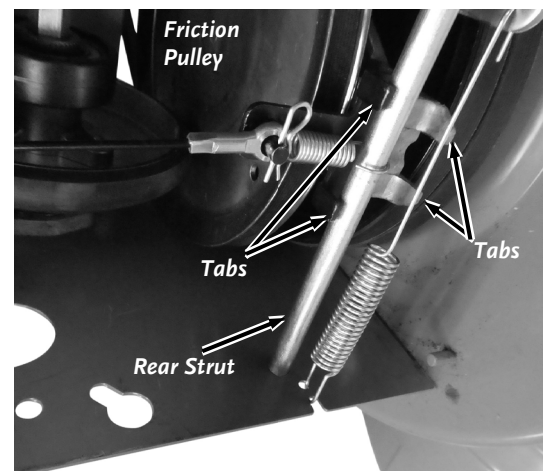

Figure 57
- Look under the Frame and observe how the end tabs of the Friction Disc Bracket are located on both sides of the rear Strut (**Figure 57**). It is very important that it is installed this way when reassembled for proper operation.